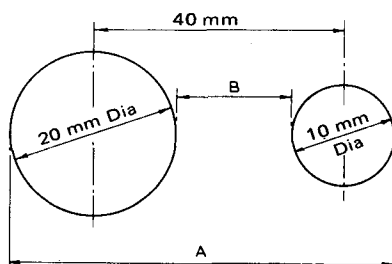

Fig. 1.2
- Find the dimensions A and B in Fig. 1.2.